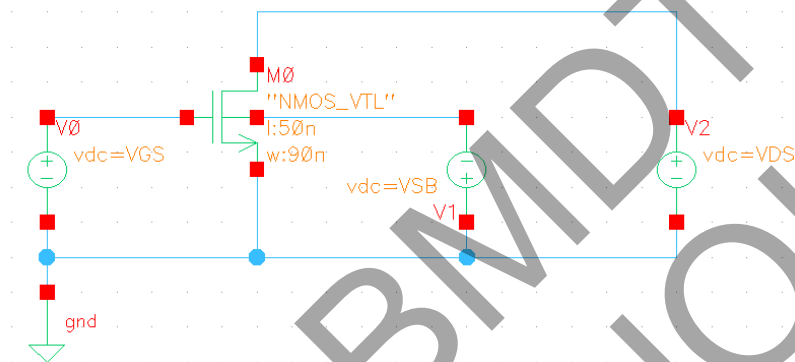
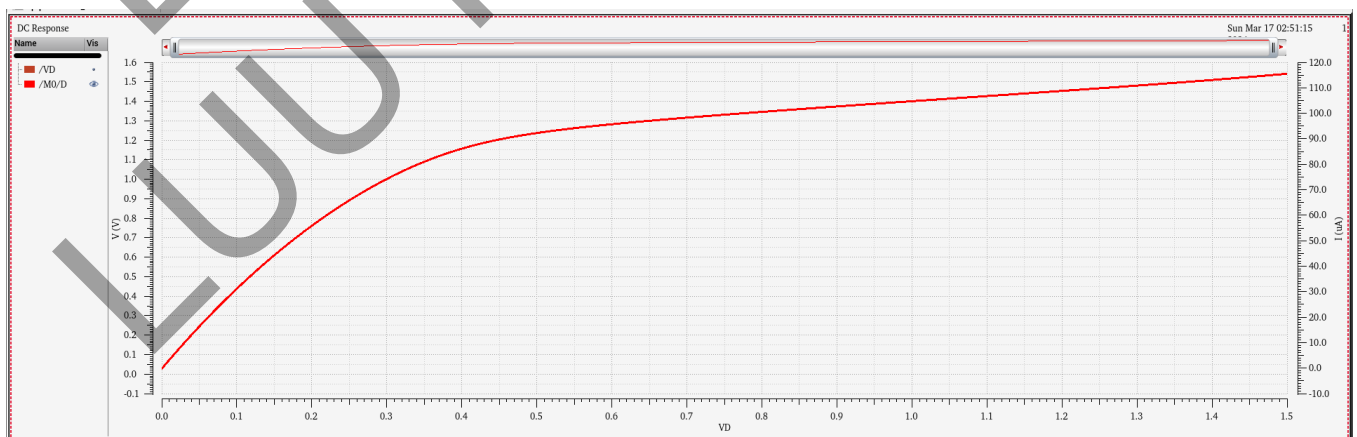

Figure 1 Test setup for the NMOS transistor.
Figure 3 I_D vs V_{DS} of NMOS @ $V_{gs} = 1\text{V}$.
Instructions: For example, design a testbench similar to **Figures 1** and **2** to characterize the devices, maintaining the default device dimensions ($W/L = 90\text{n}/50\text{n}$). Based on Lab 0, students should obtain results corresponding to the curves shown in **Figures 3** and **4**.
3. Based on **Figure 3**, qualitatively determine the operating regions of the NMOS transistor.